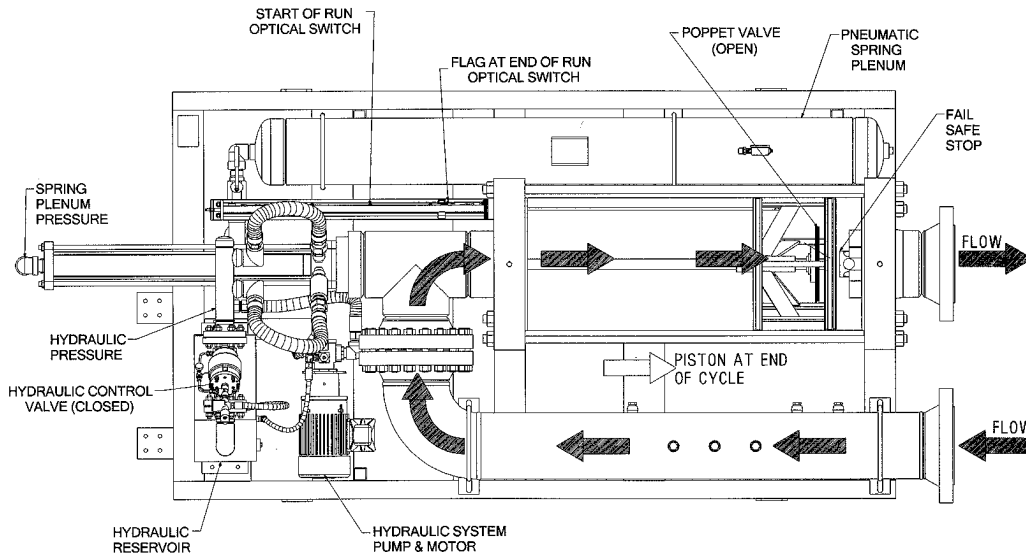

Figure 3-4. End of Proving Run
4. When the flag trips the second optical volume switch, the hydraulic control valve closes. Hydraulic pressure builds and begins to push the actuator piston upstream, opening the poppet valve. Process fluid is then allowed to flow through the piston (Figure 3-4).
A positive stop feature is incorporated into the outlet flange for failsafe operation. This prevents any accidental blockage of the process flow stream. Reference Figure 3-4.